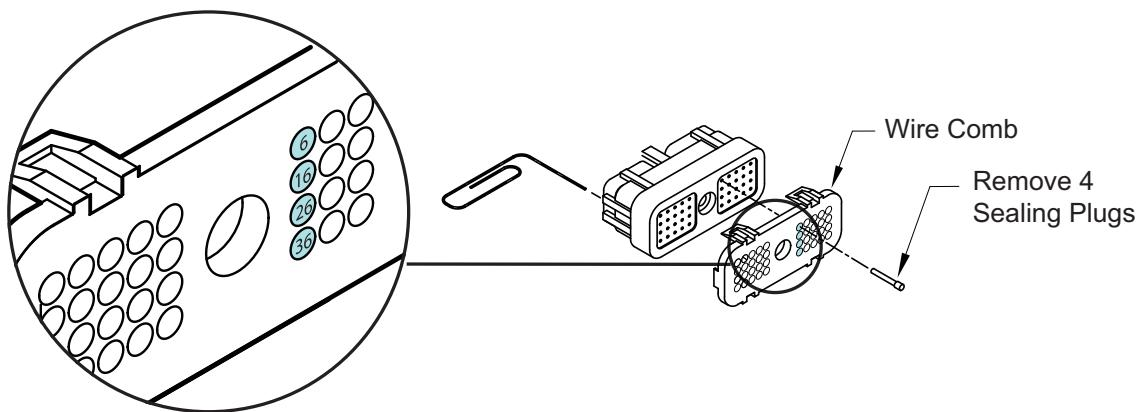

Figure 7. Remove 4 Sealing Plugs
4. To remove the sealing plugs from pins 6, 16, 26, and 36 from the wire comb (see Figure 7), insert a large paper clip, or something similar into the mating end of the connector, and push out the sealing plug.